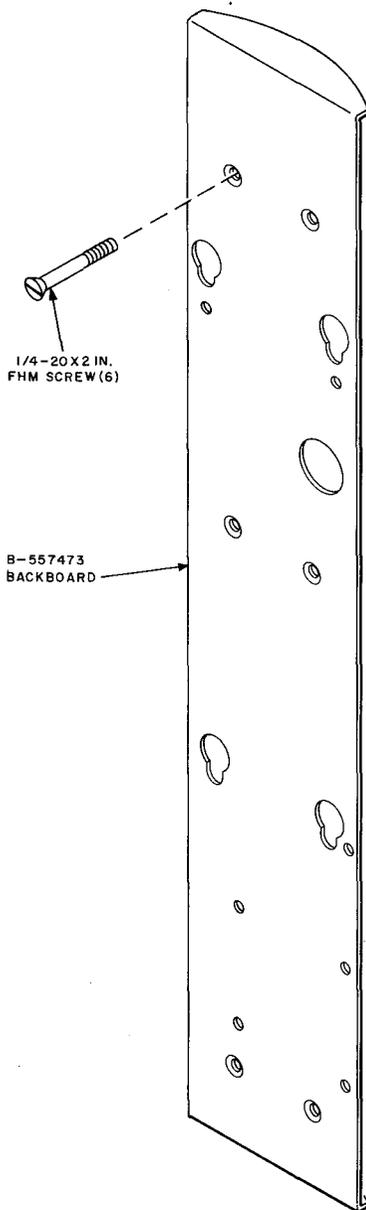

Fig. 4—KS-19206, List 7 Coin Telephone Set Installation Kit
3.17 List 7 Kit: Install KS-19206, List 7 kit in accordance with Fig. 4.